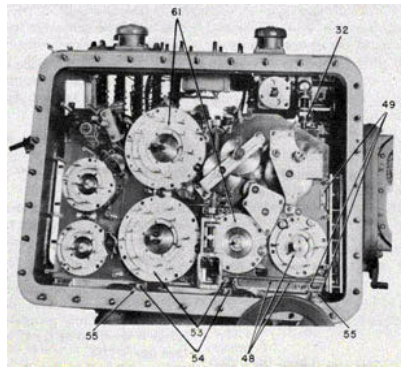

Figure 113-Removal of Computer.
32. From front of director loosen clamp on own ship course unit and slip Oldham coupling down as far as possible. Jiggle own ship course unit slightly so that the center piece of the Oldham coupling can be removed. See figure 113.
48. Now, remove sight angle dial gear assembly and then drive two pins out of collar 422937- 9, at the base of the computer and slip collar as far to the left as possible. See figure 113.
49. Remove three mounting screws holding the clamp at the bottom of the external lighting type bearing receiver gear box which is attached to the right side of the computer. See figure 113.
53. Remove main dial group "A" gear assembly. Figure 113.
55. Drive the two dowel pins in front of the computer mounting pads far enough through the bottom of the case to clear the computer. See figure 113.
61. Remove the two dial gear assemblies from the front plate of the computer. Inspect and clean all dial gear assemblies. See figure 113.